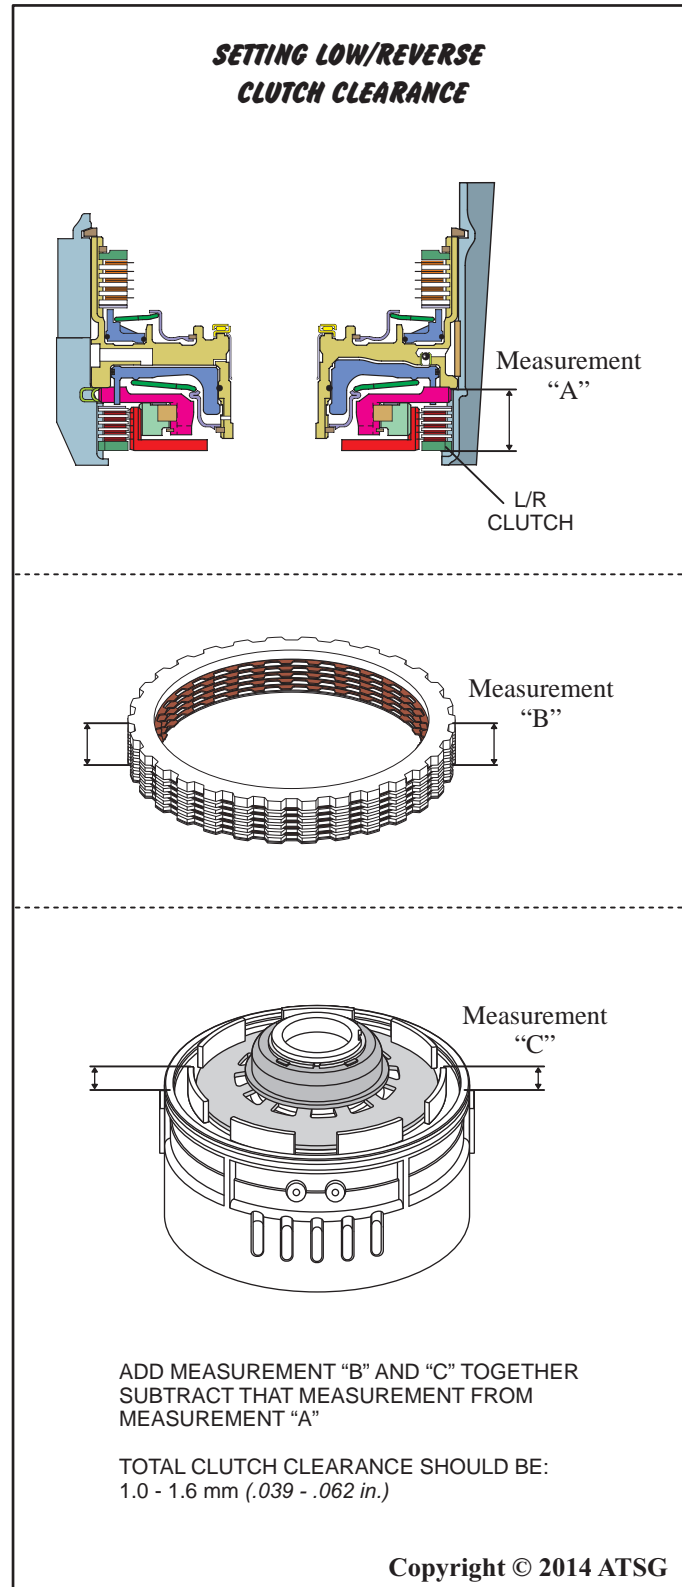

Figure 135
10. To determine proper clutch clearance for the low/reverse clutch, it will be necessary to make a number of measurements, refer to Figure 135 for the items to be measured.